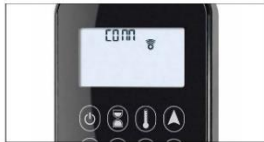

Figure 13: Synchronization in process
Press and hold the receiver's reset button (see figure 16, page 8) until you hear two (2) beeps. After the second, longer beep, release the reset button. Within the subsequent 20 seconds press the **✓** button on the handset. Two (2) short beeps confirm the code is set. "GV60" is displayed on the handset confirming the synchronization is in process (see figure 13).